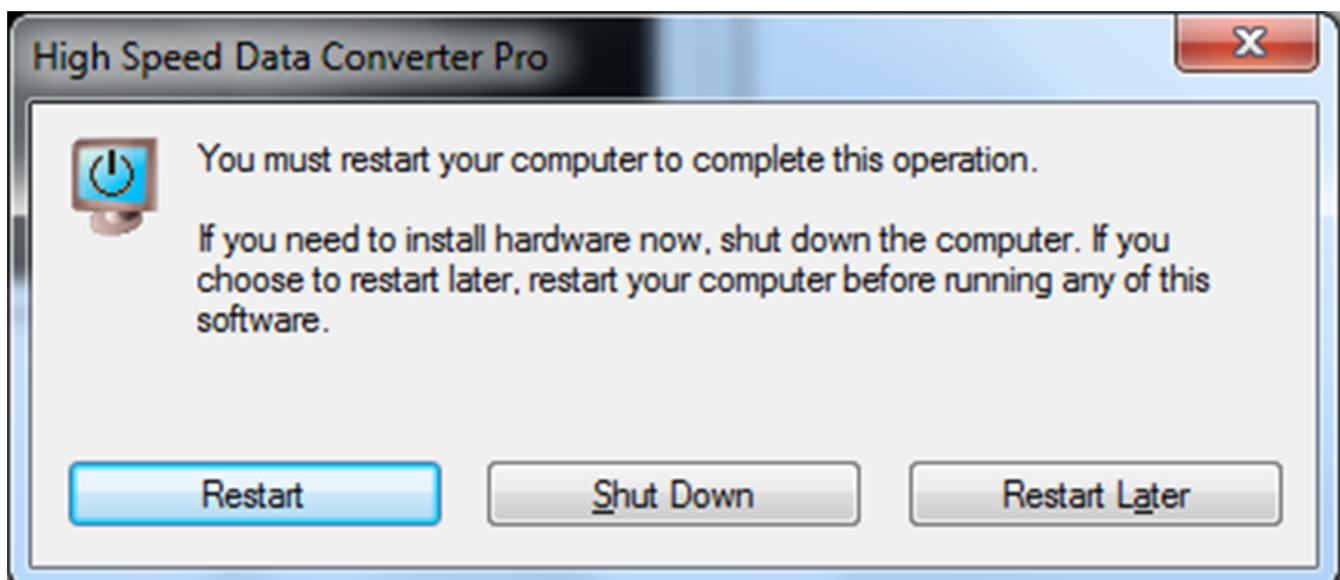

Figure 48. HSDCPro Install
- As shown in Figure 48 a restart might be requested depending on whether or not the PC already had the National Instruments MCR Installer. If requested, hit the *Restart* button to complete the installation.